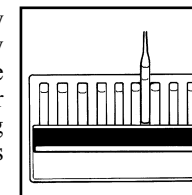

Figure 5
- b. Hold the high range comparator in a nearly horizontal position while standing directly beneath a bright source of light. Place the CHEMet ampoule between the color standards moving it from left to right along the comparator until the best color match is found (fig 5).